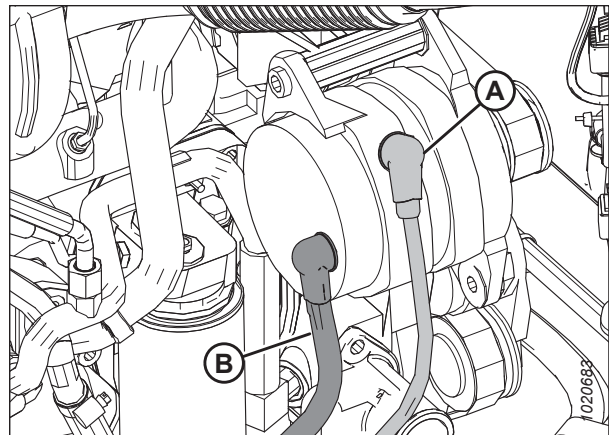

Figure 5.35: Alternator
- Do **NOT** short across battery or alternator terminals or allow battery positive (+) cable (B) or alternator wire to become grounded.
- If wires are disconnected from the alternator, refer to Figure 5.35, page 382 to ensure proper connection.